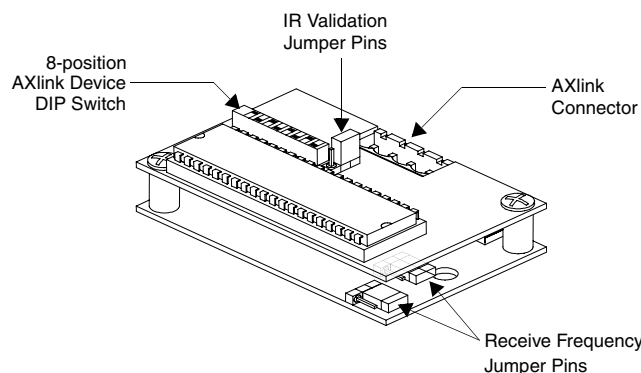
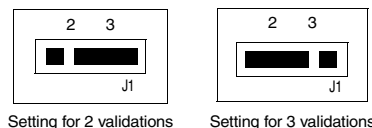

FIG. 2 Location of key components on the AXD-IR+ circuit board
FIG. 5 IR validation jumper pin settings
Set the receive frequency, AXlink device number and IR validation level before installing the AXD-IR+. FIG. 2 illustrates the location of key components on the AXD-IR+ circuit board.
- Locate the 8-position Device DIP switch (FIG. 2).
- Locate the IR jumper pins (J1) (FIG. 5) on the circuit board (FIG. 2).
- Position the IR validation jumper (FIG. 5) to select the number of valid IR data repetitions to be accepted: